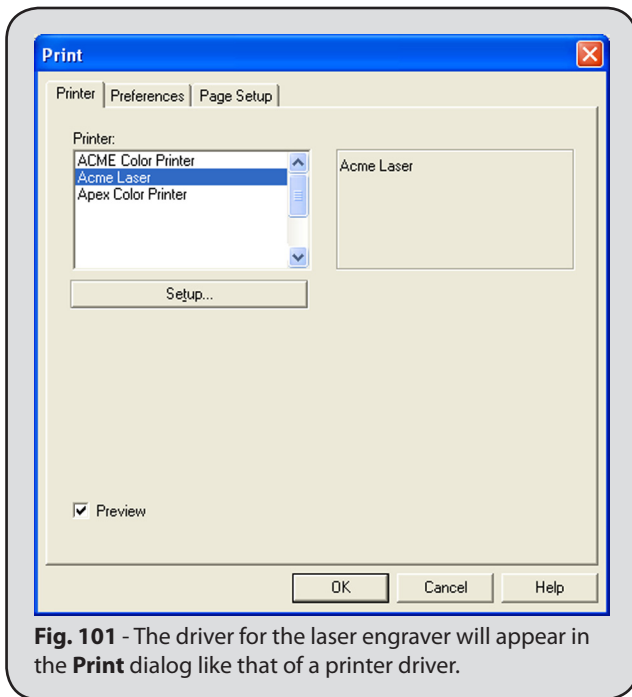

Fig. 101 - The driver for the laser engraver will appear in the **Print** dialog like that of a printer driver.
1. Choose **File** menu >> **Print** to open the **Print** dialog (Fig. 101).